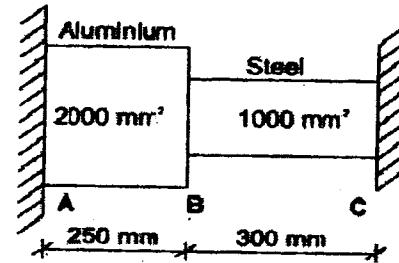

Figure 11
- c A member ABCD, with three different square cross sections as shown in Figure 11 is (06)